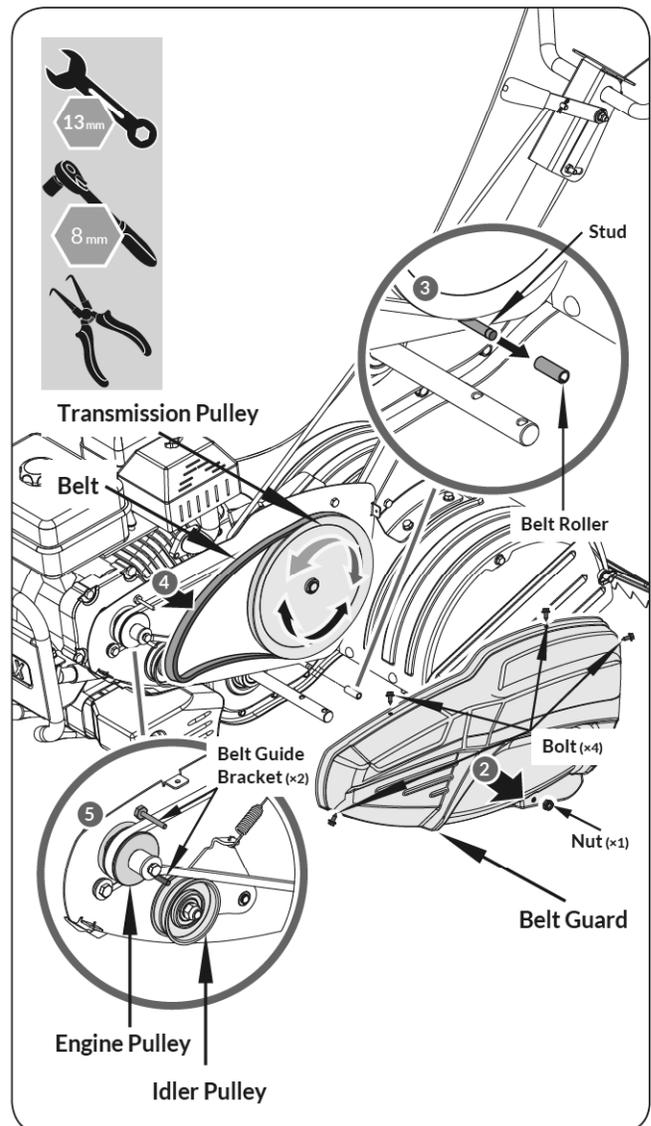

Figure 11b
2. Remove the 4 bolts and 1 nut on the belt guard to expose the belt assembly. (See **Figure 11b, illustration 2**)
3. Slide the belt roller off its stud below the large transmission pulley. (See **Figure 11b, illustration 3**)
4. Remove the belt from the engine and idler pulley: Rotate the transmission pulley and pull the belt gently through the roller stud while working it free from the pulley. (See **Figure 11b, illustrations 4 & 5**)